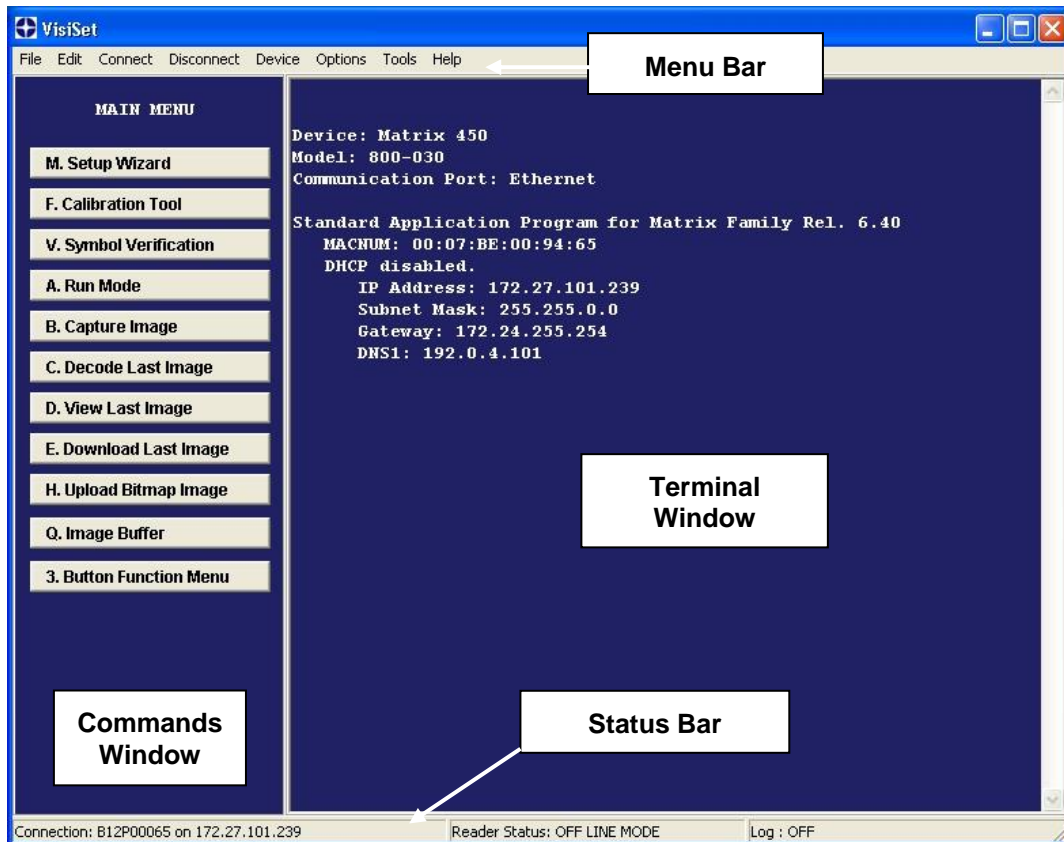

Figure 69 - Main Window
Upon connection, Matrix 450™ exits Run Mode and displays the Main Menu on VisiSet™ with all the commands necessary to monitor your reader's performance. You can select these commands using the mouse or by pressing the key corresponding to the letter shown on the button. See Figure 69.
The **Options** item from the VisiSet™ menu (see Figure 69) presents a window allowing you to configure:
6. Close the Parameter Setup window and press **Disconnect** on the VisiSet™ menu bar (see Figure 69) or launch **Run Mode** from the VisiSet™ Main menu.